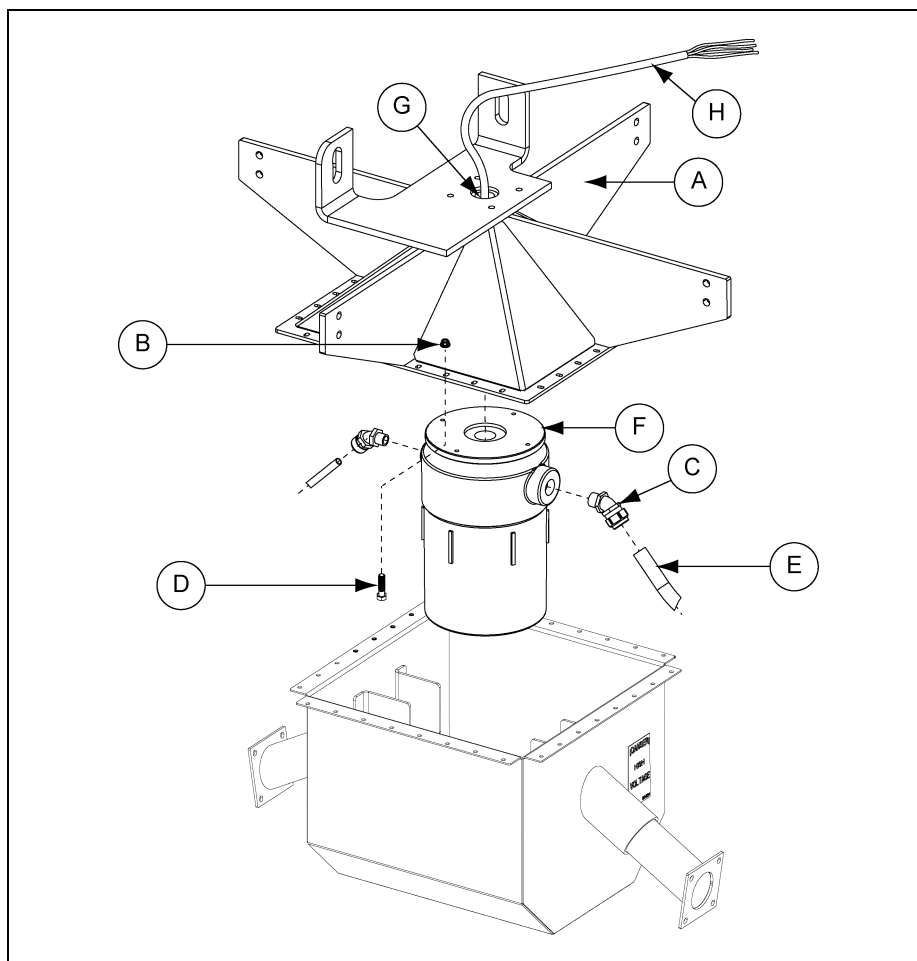

Figure 4E
1. Guide electrical wires (H) from top of cross brace assembly (A), through the cross brace pivot shaft (G) and secure cross brace assembly (A) onto the collector ring (F) with hex bolts (D) and hex nuts (B). Tighten to specification. *(See Figure 4E.)*
2. Continue to guide the electrical wires (H) from the collector ring (F) through each conduit elbow (C) and attach the conduit elbow (C) to the collector ring (F).
3. Guide the electrical wires (H) through the lower flex conduit (E) and attach to the conduit elbows (C).